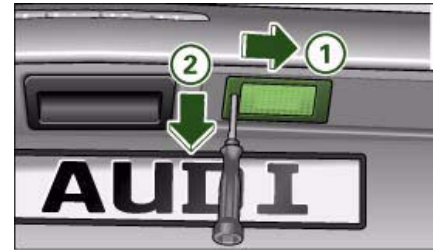

Fig. 282 Boot lid: Removing number plate light
- Insert the flat-blade side of the reversible screwdriver into the slot on the number plate light ⇒ fig. 282.